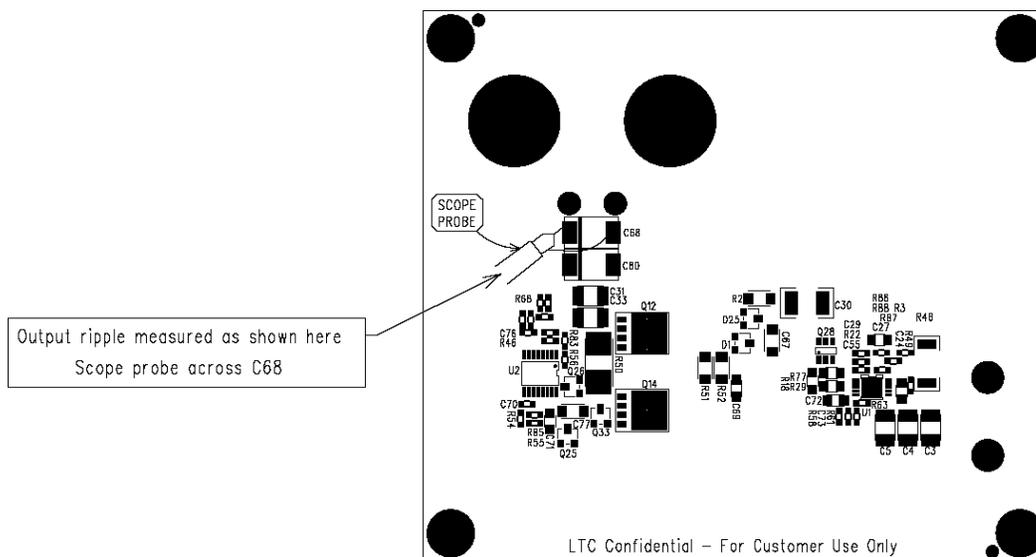

Figure 2. Measuring Input or Output Ripple
**NOTE:** When measuring the input or output voltage ripple, care must be taken to avoid a long ground lead on the oscilloscope probe. Measure the output (or input) voltage ripple by touching the probe tip and probe ground directly across the input or output capacitor. See Figure 2 for proper scope probe technique.